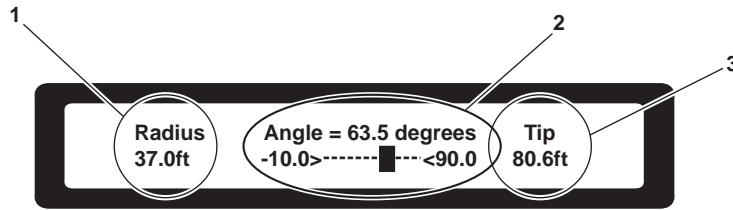

Figure 18. Radius, Live Boom Angle and Tip Height Display Screen
- Access the radius, live boom angle, and tip height display screen (figure 18) by pressing the up arrow button (figure 2, item 5) on the LMI receiver panel (figure 2, item 2) once while in the primary operating screen (figure 10).
- The radius, live boom angle, and tip height display screen (figure 18) will display load radius (figure 18, item 1), boom angle (figure 18, item 2), and tip height (figure 18, item 3).